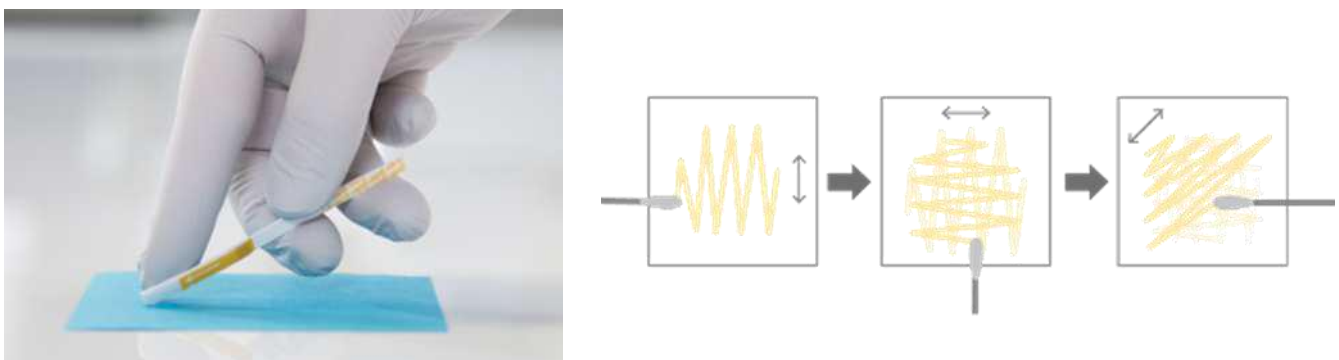
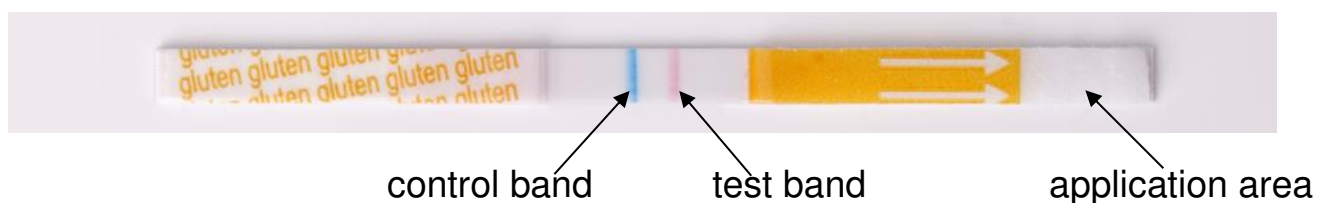

Fig. 1: Direct swabbing of surfaces with RIDA®QUICK Gliadin
Fig. 2: Test strip RIDA®QUICK Gliadin
- Swab the lower end (application area; see also chapter 10 fig. 2) of a dry test strip thoroughly in a cross-hatch technique over a sampling area of 10 x 10 cm (see fig. 1).
The right line in the result area is the red test band (see fig. 2). The sample contains gluten, if the test band becomes visible.
The left line in the result area is the blue control band (see fig. 2). It must be present after each test procedure.